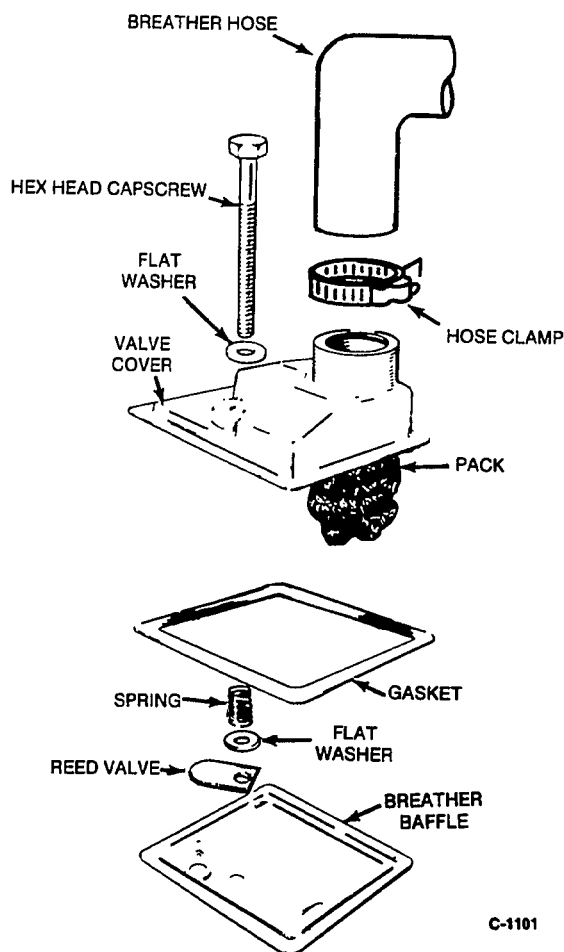

FIGURE 6-13. CRANKCASE BREATHER
1. Remove the breather tube from the valve cover (see Figure 6-13).